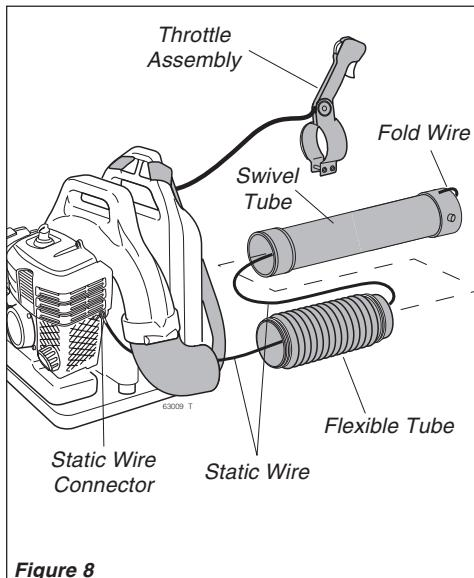

Figure 8
2. Remove static wire from package and fix eyelet to right hand engine cover screw. See Figure 8.
7. Fold the end of the static wire back over the connection of the swivel tube. See Figure 8.